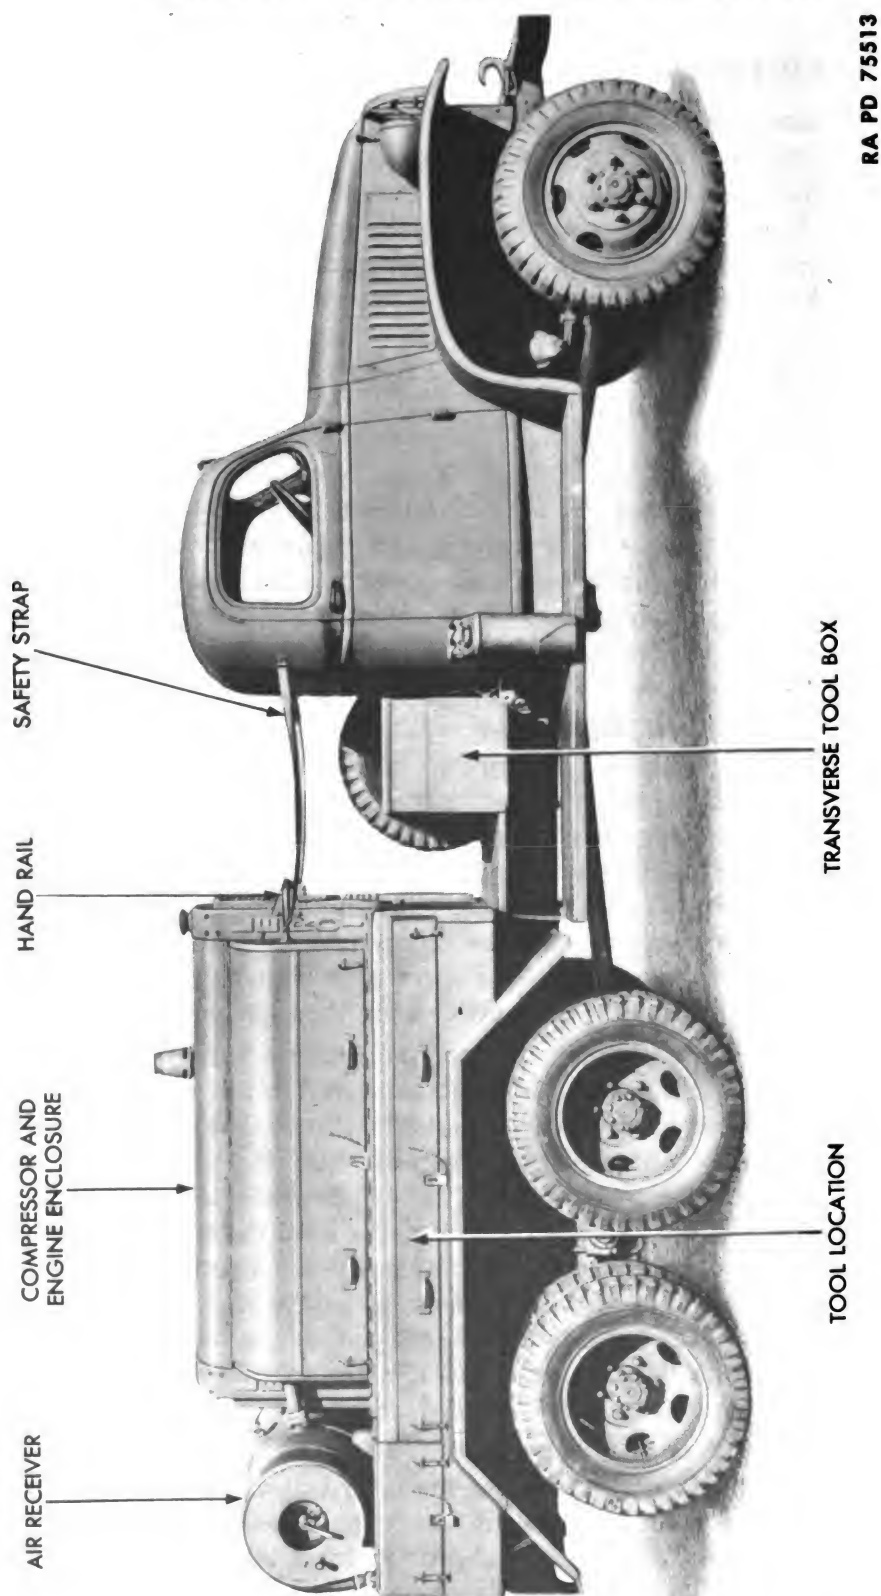
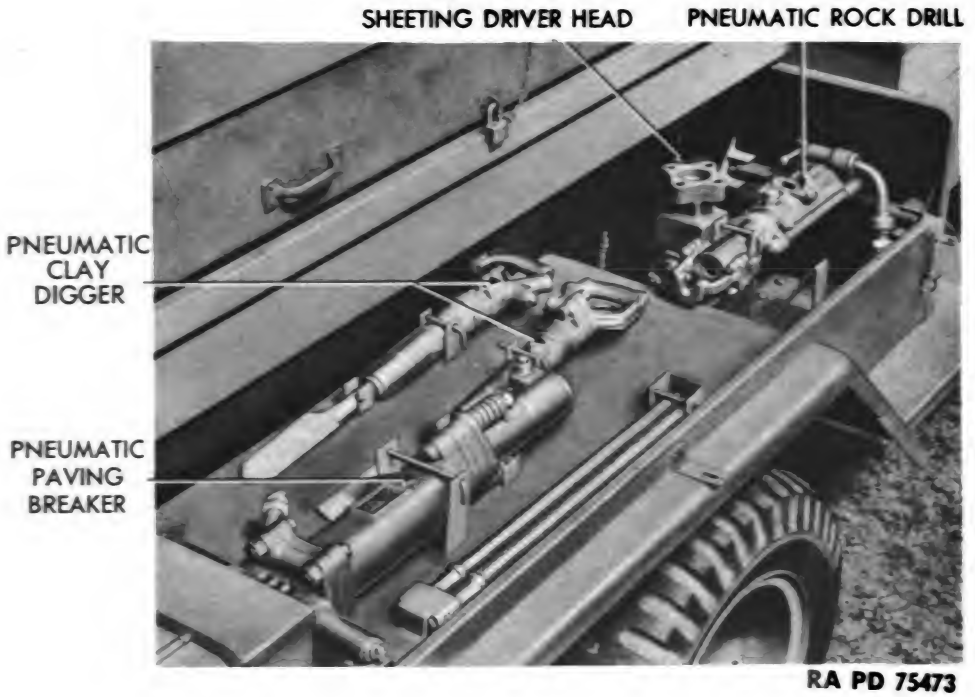

Figure 2 — Compressor and Truck
Figure 3 — Compressor Unit Right-hand Tool Location
a. **General** (fig. 2). The air compressor unit is mounted on a 2½-ton, 6x6, truck equipped with tool boxes for convenient storage of pneumatic tools, spare parts, and miscellaneous equipment (figs. 3 and 4). A tool box mounted transversely behind the truck cab provides seating facilities for three men and is equipped with safety straps and handrails. A combination vise is attached to a rigid portable workbench stored in the transverse tool box when not in use (fig. 5). The air compressor unit is completely enclosed by a steel hood, hinged side panels, and splash pan.